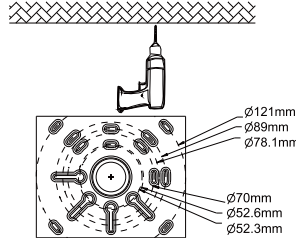

Figure 2-3
3. Drill the holes on the ceiling accordingly to fit the plate; Figure 2-3